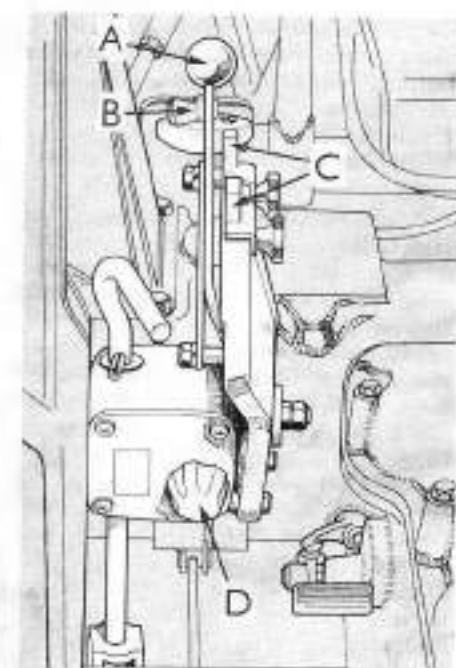

Fig. 268—Drawing showing hydraulic system controls. Refer also to Fig. 269 and 270.
For explanation of system operation, refer to the following paragraphs 241 through 244. Schematic diagram of the system is shown in Fig. 267 and Figs. 268, 269 and 270 show views of the hydraulic system controls.
**NOTE:** To move selector dial (B-Fig. 268) to different position, the control lever (A) must be held fully rearward against spring pressure.